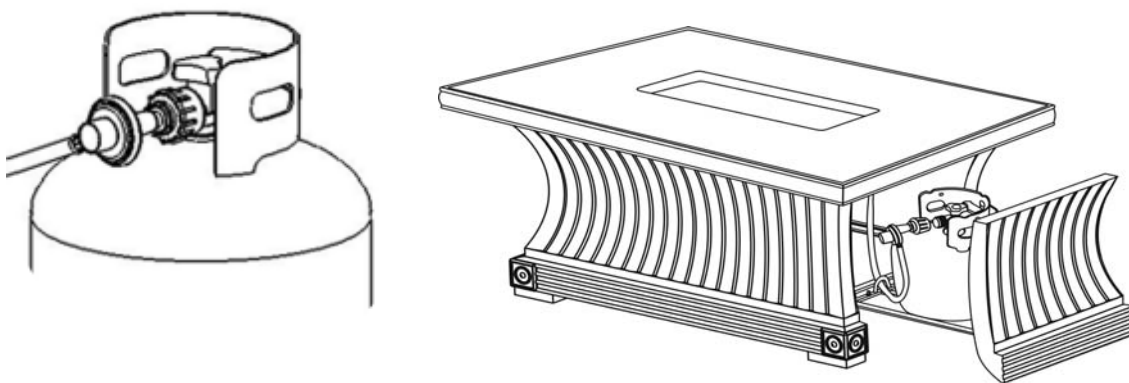

Figure 7
- Slide the tank drawer out and place the LP tank in the drawer. Connect the regulator as shown in Figure 7. Screw the black handle clock-wise to tighten. Turn the handle counter clock-wise to remove. The hose must point down. Check that the valve is turned all the way clockwise to the "OFF" position. Open the tank valve. Apply a solution of soapy water to the tank-regulator connection and to the valve-hose connection to check for leaks. If soap bubbles continue to form, the connection has a leak. If a leak is found, close the tank valve and tighten all connections.